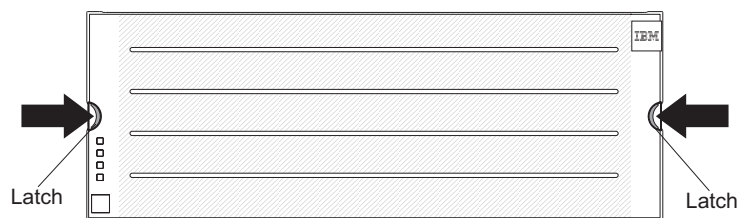

Figure 80. Removing the bezel
- a. At the front of the storage expansion enclosure, remove the bezel by pressing inward on the latches (see Figure 80 on page 119).
- a. Orient the bezel to the front of the storage expansion enclosure (see Figure 80).